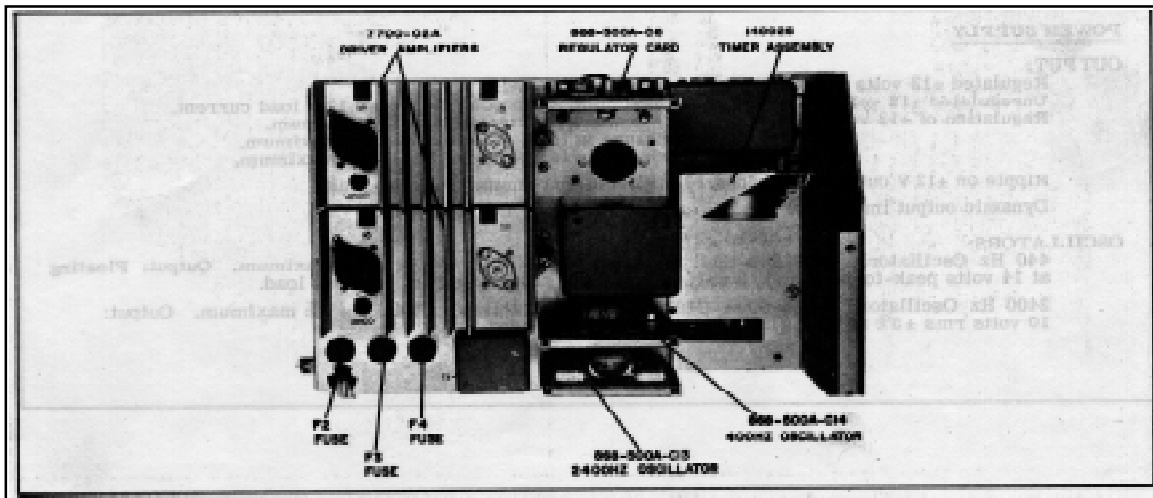

Figure 1-6. 7702A System Power Supply
1-15. The power supply (Figure 1-6) provides operating power for the 7702-OIA Recorder, 8800 Series Preamplifiers, and two 7700-02A Driver Amplifiers. The mm/sec timer assembly 14002S and the optional mm/min timer assembly 14002R plug into the power supply. Also mounted on the rear of the power supply are three plug-in circuit boards; (1) Regulator Card 868-500A-C6 which furnishes regulated +12 and -12 volts to the preamplifiers, (2) Oscillator Plug-in 868-500A-C13 which provides a 2400 Hz transducer excitation voltage for use with the 8805A Carrier Pre-amplifier, and (3) Oscillator Plug-in 868-500A-C14 which provides a 440 Hz chopper excitation voltage for Model 8803A High Gain Preamplifier.